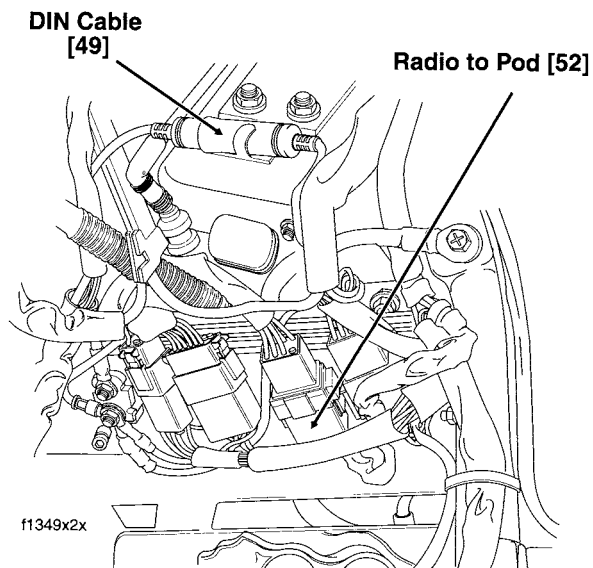

Figure 51. Seat Removed (FLHTC/U-I, FLTCU-I)
A3.2 Disconnect connector [52] at base of gas tank. See Figure 51. Do the speakers work?
C3.1 Measure DC voltage at blue/yellow wire in connector [52]. See Figure 51. Voltage measurement must be 10-12 vdc. Press both PTT switches, one at a time, and observe meter reading. Reading must be less than 0.5 vdc with PTT pressed.
D.2 Disconnect connector [52]. See Figure 51. Check radio function at both handlebar controls. Does the function work properly?